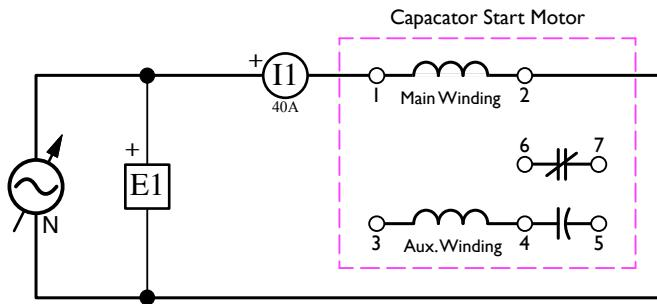

Figure 4.16: Capacitor Start Motor – Main Winding Only
35. Construct the capacitor start motor circuit shown in Figure 4.16.